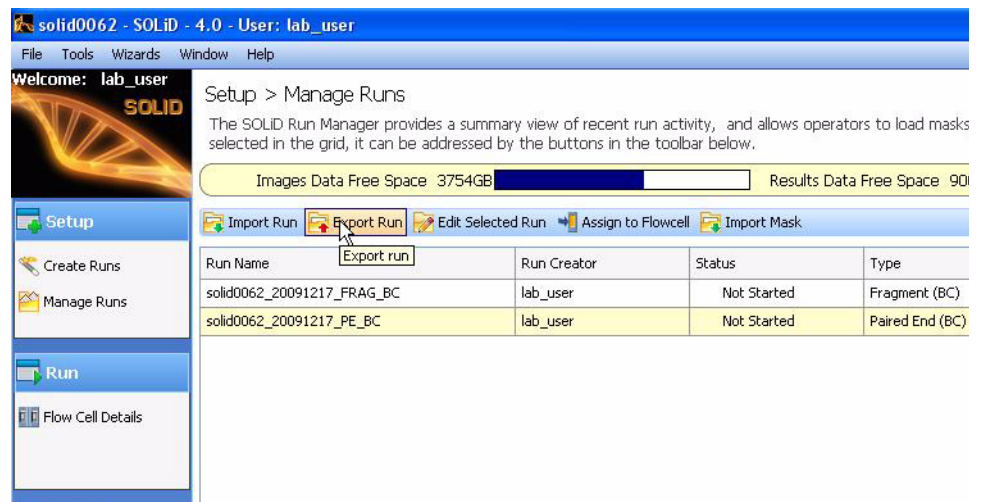

Figure 73 Export Run.
2. Click **Export Run** (see Figure 73).